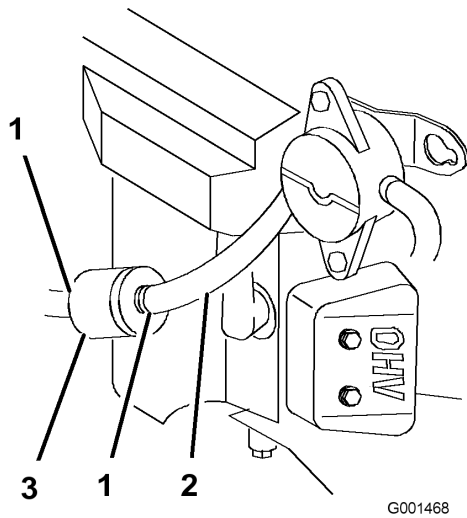

Figure 26
4. Squeeze the ends of the hose clamps together and slide them away from the filter (Figure 26).